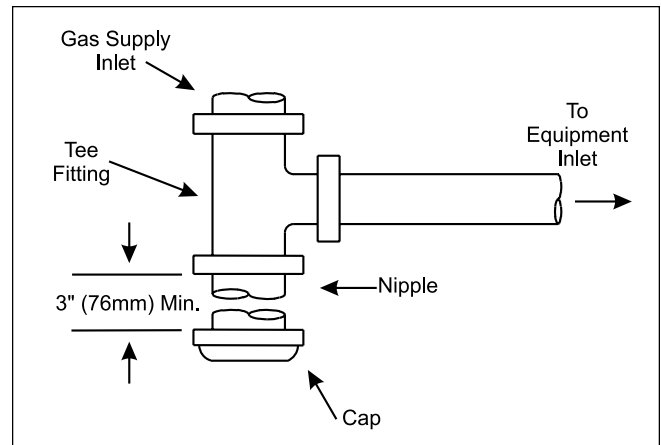

Figure 6. Sediment Trap Installation.
3. A sediment trap (drip leg) must be provided ahead of the gas controls (see Figure 6). A manual gas shutoff valve must also be provided for service convenience and safety. A cap must be provided for cleaning purposes. Check the local codes.